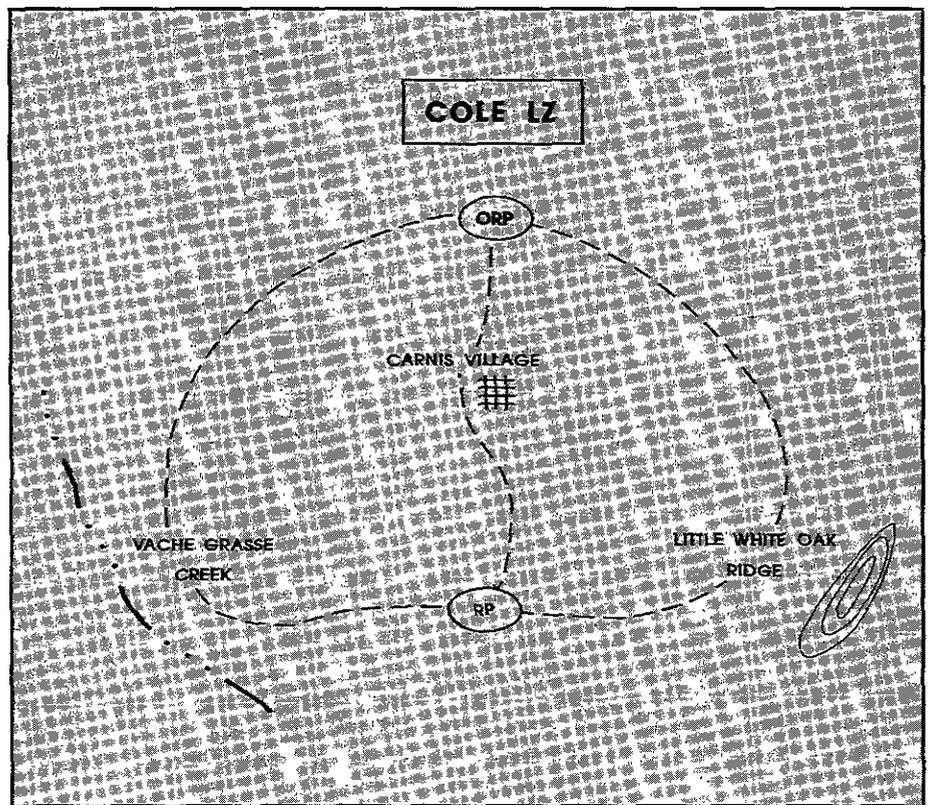

Figure 1
converging routes technique in a JRTC scenario, the scouts are inserted at Cole LZ (Figure 1), and this serves as the initial objective rally point (ORP). From this ORP, the squads move on their assigned routes to a reference point (RP) that becomes a second ORP once it has been occupied. The platoon leader moves with one of the squads or separately, depending on where he thinks he can best control the platoon. In addition to specifying the reference point, the platoon leader also specifies an exact date and time for link-up. Thus, if he loses communication with a squad, and that squad also fails to appear for the link-up, he can safely assume something has gone wrong. And he knows that squad's route and can go look for it.